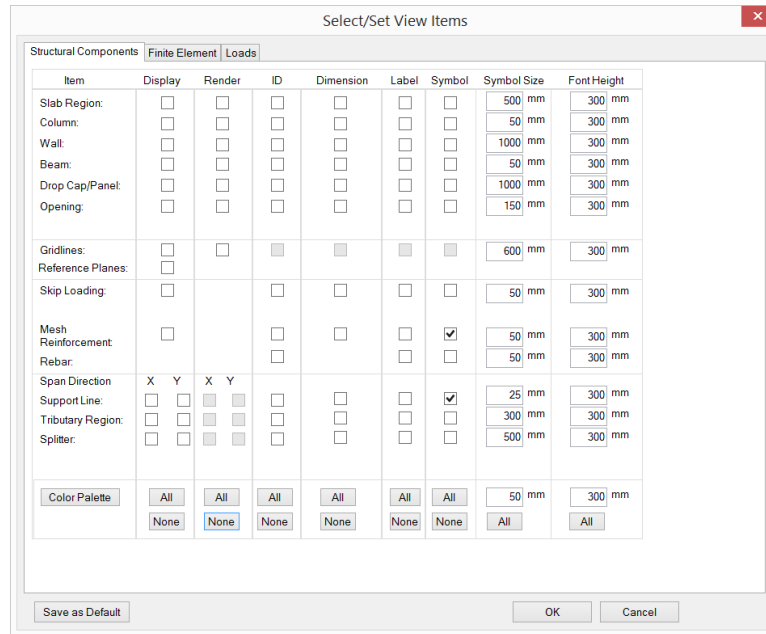

Figure 6.4-6 - Select/ Set View Items Dialog Box
- This will open the **Select/Set View Items** dialog box. By default, the **Structural Components** tab will be open. Turn on the display of **Slab Region**, **Column** and **Wall** as shown in **Figure 6.4-6** and click on “**OK**.” This will display all structural objects in the screen.